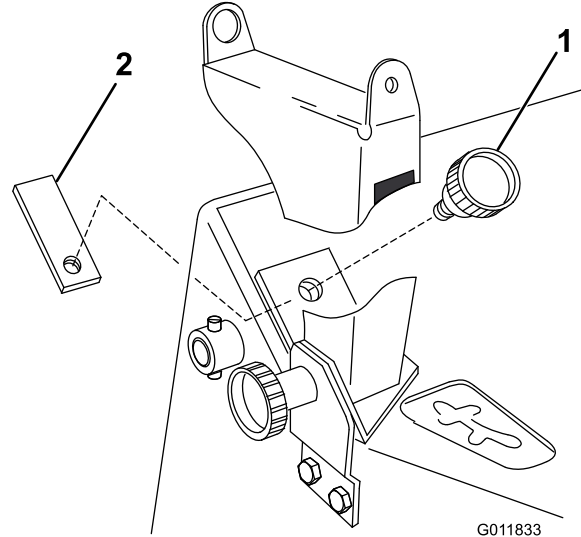

Figure 6
8. Secure the control bracket to the control panel using the other knob and the retaining plate (inserted from behind the control panel) (Figure 6).